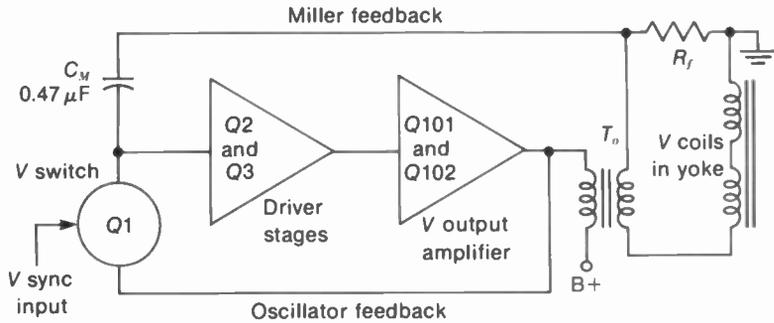

FIGURE 21-14 BLOCK DIAGRAM OF VERTICAL DEFLECTION CIRCUIT USING MILLER FEEDBACK INTEGRATOR WITH  $C_M$ . (FROM RCA CHASSIS CTC49)
A practical vertical deflection circuit using the Miller integrator principle is illustrated by the block diagram in Fig. 21-14. Q101 and Q102 are a pair of power transistors in the vertical deflection output circuit. Q2 and Q3 are amplifiers to drive the power output stage. All the amplifier stages are in the feedback loop, from the secondary of the output transformer through  $C_M$  and back to the input of Q2. In addition, the feedback to the switch Q1 makes the circuit free-running. The adjustments for this circuit include a height control and vertical hold for frequency control, but there is no vertical linearity control.
8. In transistorized vertical deflection circuits, the Miller feedback integrator in Fig. 21-14 is often used. This circuit allows a smaller sawtooth capacitor, with good linearity. Usually, there is no linearity control.